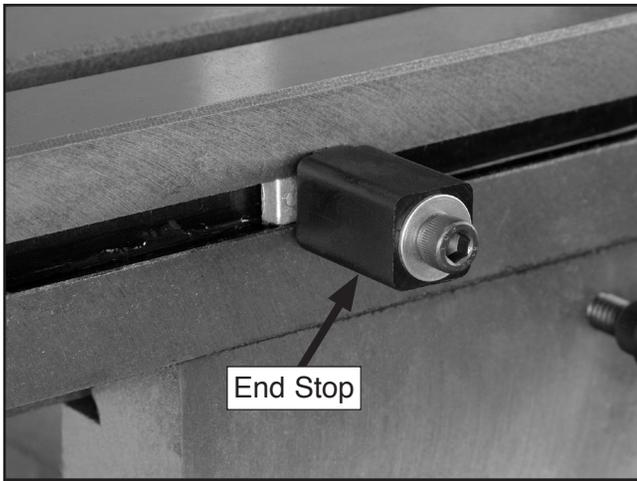

Figure 13. End stop.
7. Insert the end stops into the slot on the front edge of the table, then tighten them (**Figure 13**).